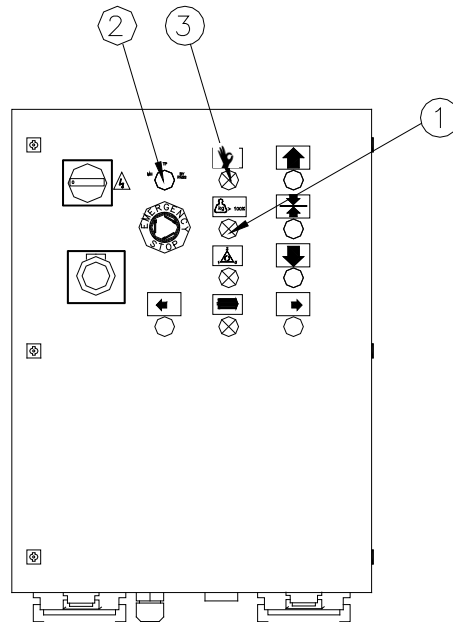

Fig.I.05 Devices into electric panel
If the green lamp is on, (3-fig.I.05), all safety feature are OK and machine can run.
This key switch (2-fig.I.05) sets the machine as transport platform (TP) or material hoist (MH), or in by-pass function mode. When the lower final limit switch, or fail safe brake, or safety net device, is activated, carry out the following operations:
In case of overload, a red indicator lamp (1-fig.I.05) on the electrical box illuminates. The machine can no longer be operated.